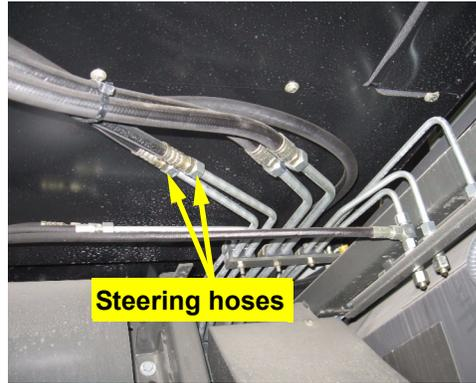

Figure 5a: Steering location
- a. Locate the two steering hoses attached to the steering orbital under the cab (Figure 5a).